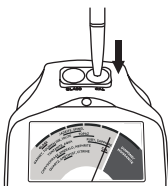

Fig. 1.4
- Press the probe tip onto the calibration (CAL) test disc located on the right of the indicator lamp (**Fig.1.4**). Apply sufficient pressure to retract the protruding tip completely into the probe pen. The indicator should rise to and remain within the red strip (preferably at the center of red strip) with "CAL" printed on top, within two to three seconds.